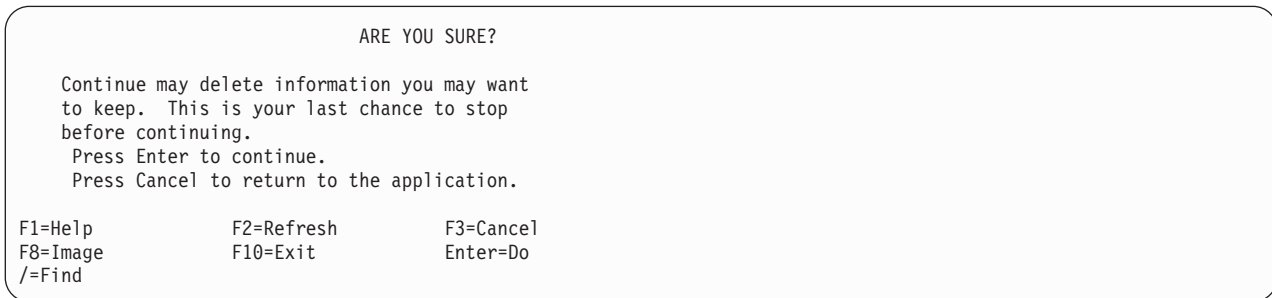

Figure 2-23. Warning Message for Processing AOTM To a Remote Cluster
7. Press **Enter**. You see Figure 2-23.